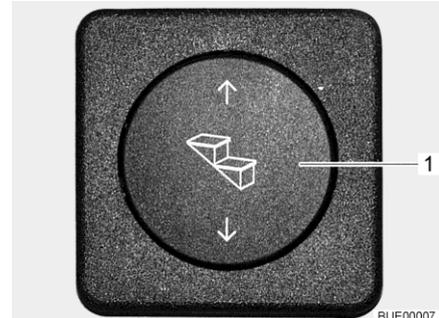

Fig. 8 Operating button for entrance step
- Extending:** ■ Press the rocker button (Fig. 8,1) down and hold it pressed (at least 3 seconds) until the entrance step has extended completely.
- Retracting:** ■ Press the rocker button (Fig. 8,1) up until the entrance step has retracted completely.